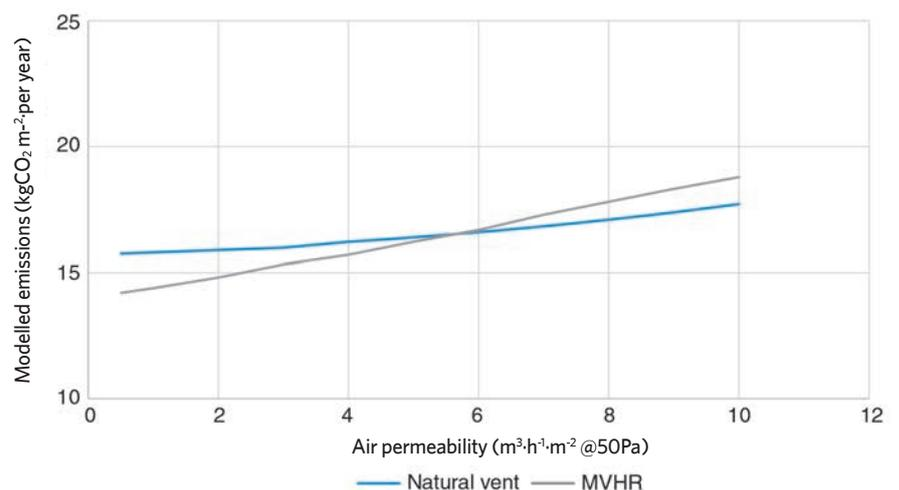

Figure 2: Carbon emissions for an example dwelling at different air permeabilities and with different ventilation types
The study looked at the impact of air permeability on modelled CO2 emissions with different ventilation strategies. Figure 2 shows
**Rule Two:** Be clear what your survey is about. Do you want it to be specific or cover a wide range of comfort factors? The best surveys are those that have a particular research focus, be it thermal comfort, acoustics or health (see Figure 2 'A map of typical occupant surveys'). It's possible to develop a general built environment questionnaire, but it takes talent to avoid breaking Rule Three, which is: keep it short. Respondents start to suffer survey fatigue after three A4 pages or web screens.